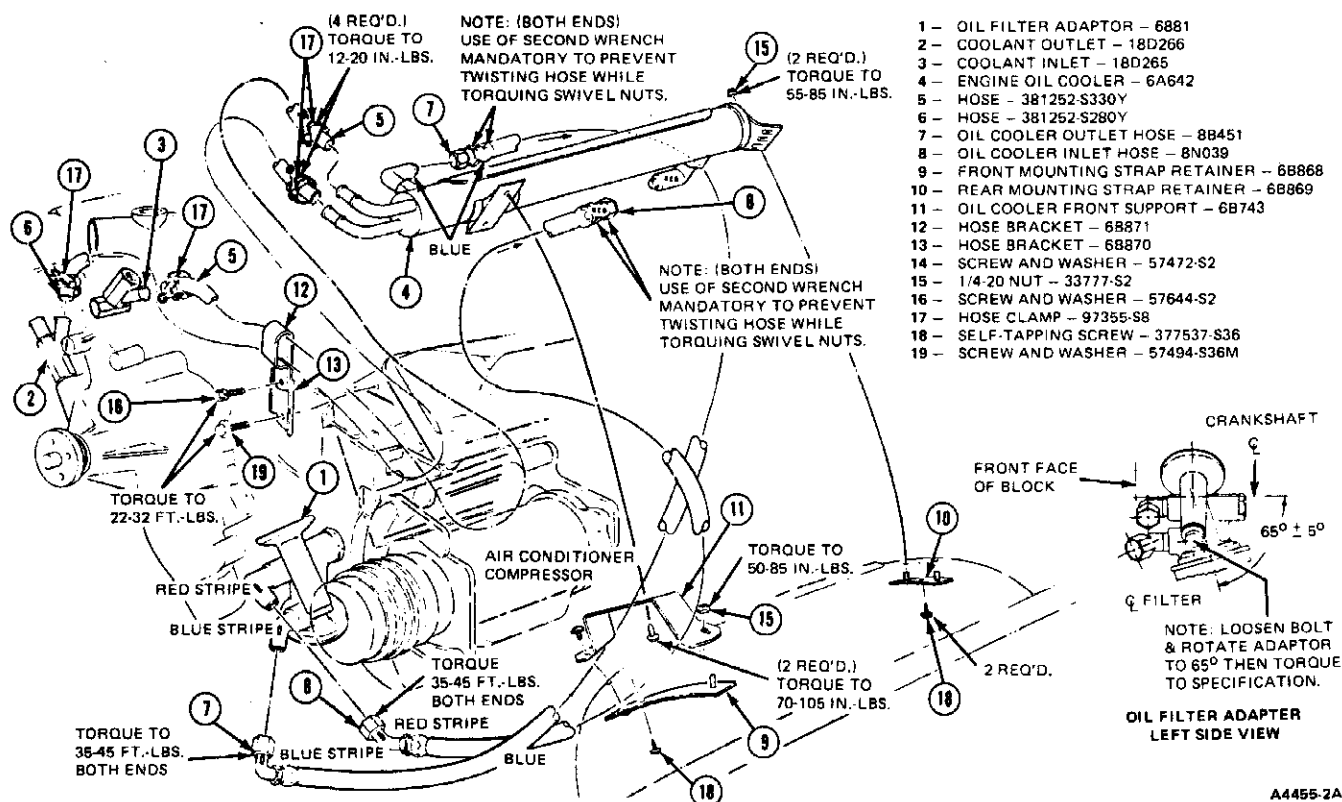

FIG. 2 Engine Oil Cooler Installation—Ford/Mercury Police Interceptor—A/C Shown
7. With gaskets in place on inlet pipes, guide pipe ends into exhaust manifold flanges. Install nuts on flange studs and torque to specifications. On Police Interceptor models, connect engine oil cooler hoses to oil filter adaptor. Make sure and observe color codes on adaptor and hoses (Fig. 2).
2. Disconnect the water coolant lines from the oil cooler (Fig. 2).
1. Install the front support bracket on the oil cooler with the top end as shown in Fig. 2 to fit the contour of the fender apron.
2. Disconnect the oil cooler inlet and outlet hoses from the oil filter adaptor (Fig. 2).
2. Position a new mounting gasket with the rib in the horizontal position and the rib of the adapter in the vertical position (Fig. 2).